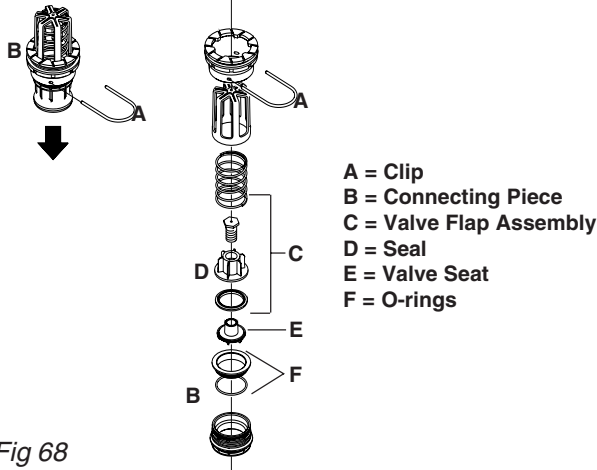

Fig 68
- 3 Pull out the clip (A Fig 68) and pull down the connecting piece (B Fig 68). The entire valve assembly can now be pulled out.
- 4 Check the cord and valve flap assembly (C Fig 68) for wear, replace the seal (D Fig 68) and reassemble.
- 5 Assemble the valve assembly again using a new valve seat (E Fig 68). Lubricate the O-rings (F Fig 68) before assembly.
- 6 Fit the clip (A Fig 68) again.